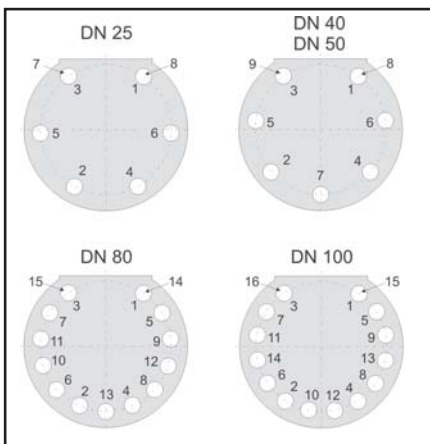

Fig. 4 - Sequence for screw connections
**Note:** The tightening sequence, and the tightening torques are shown in fig. 4 and table 2 for the respective nominal diameters.